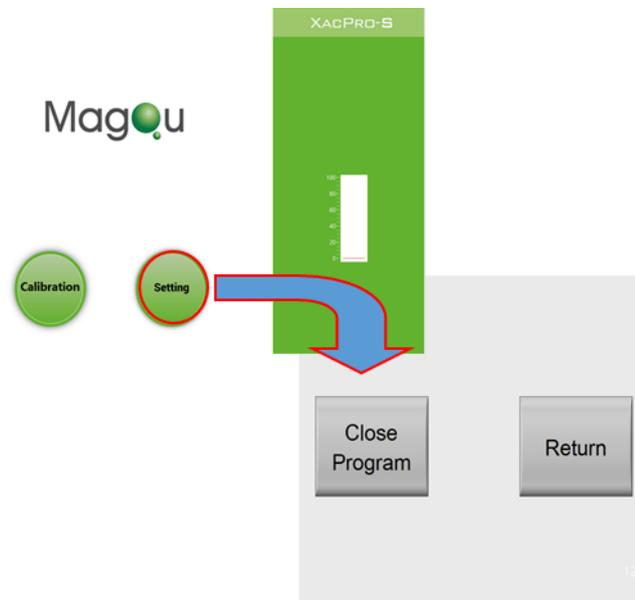

Figure 10
1. Close the program “Main.exe” and follow the steps as below, Figure 10 red marked arrow